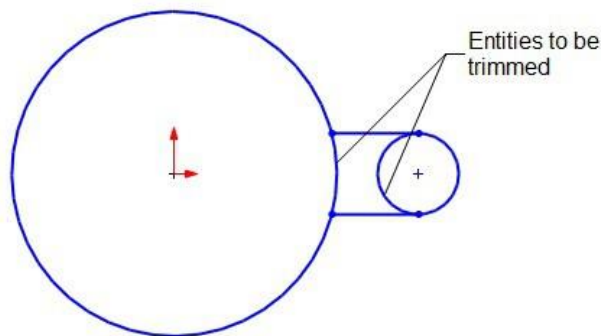
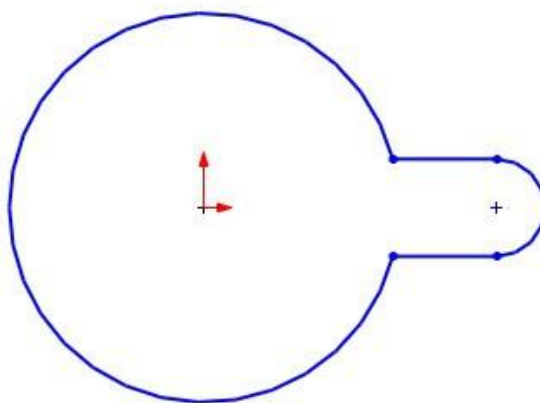

Figure 3-8 Entities to be trimmed
Figure 3-9 Sketch after trimming the entities
21. Move the trim cursor near the sketched entities to be removed one by one. Refer to Figure 3-8 for the entities to be trimmed. Next, click the left mouse button to trim them. Figure 3-9 shows the sketch after trimming the entities.